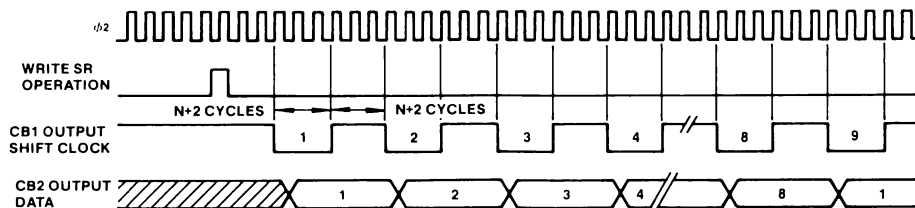

Figure 33. Shift Out—Free Running T2 Rate
**Shift Out—Free Running at T2 Rate (100)**—This mode is similar to mode 101 in which the shifting rate is determined by T2. However, in mode 100 the Shift Register Counter does not stop the shifting operation. Since Shift Register bit 7 (SR7) is recirculated back into bit 0, the eight bits loaded into the Shift Register will be clocked onto the CR2 line repetitively. In this mode, the Shift Register Counter is disabled and  $\overline{\text{IRQ}}$  is never set. Refer to Figure 33.
**Shift Out—T2 Control (101)**—In this mode, the shift rate is controlled by T2 (as in mode 100). However, with each read or write of the Shift Register, the Shift Register Counter is reset and eight bits are shifted onto the CB2 line. At the same time, eight shift pulses are placed on the CB1 line to control shifting in external devices. After the eight shift